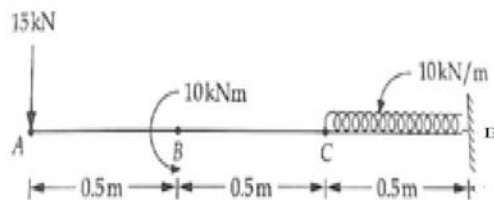

Fig. 5
- (b) Draw shear force and bending moment diagram for the cantilever beam loaded as shown in figure 5.